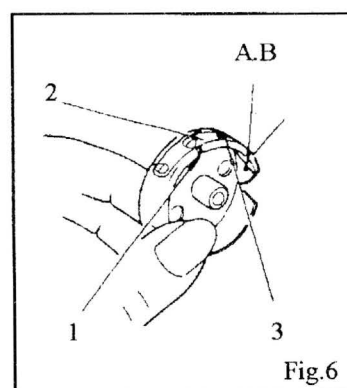
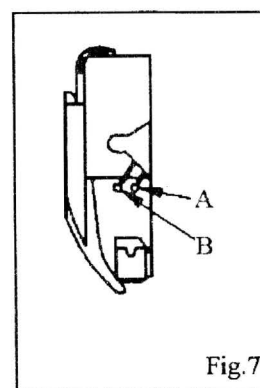

Fig.6
Fig.7
Pull the thread into slot (1) and under the tension spring (2) and into slot (3) as shown in Fig. 6. Then draw thread into delivery eye (A or B), as shown in Fig. 6. Use delivery eye (A) for sewing light weight material, as shown in Fig. 7.